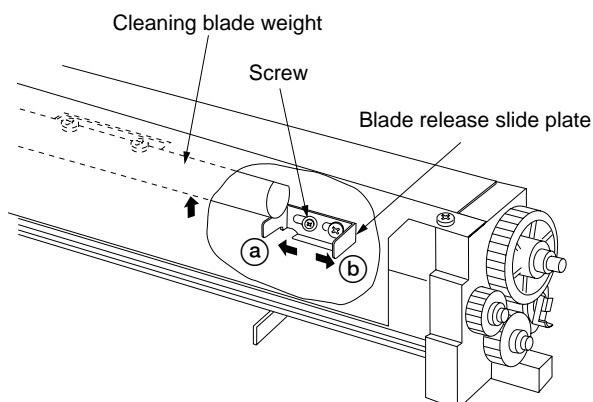

Figure 1-6-80
13. Slide the blade release slide plate in the direction of the arrow (b), contact the cleaning blade to the drum (see Figure 1-6-80).